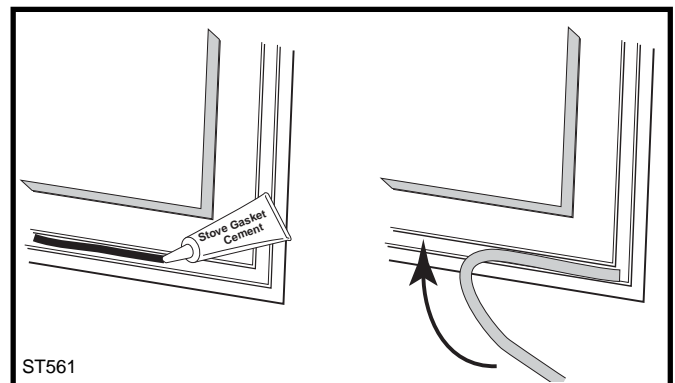

Fig. 53 Lay a bead of gasket cement then press gasket in place.
3. Determine the correct length of the appropriately-sized gasket by laying it out in the channel. Allow an extra 1-2" (25-50 mm), and mark the spot to be cut. (Fig. 53)
6. Starting at one end, press the gasket into the channel. (Fig. 53) Ensure a good joint where the gasket meets before trimming any excess. Do not overlap the gasket ends or leave ends with ragged edges.